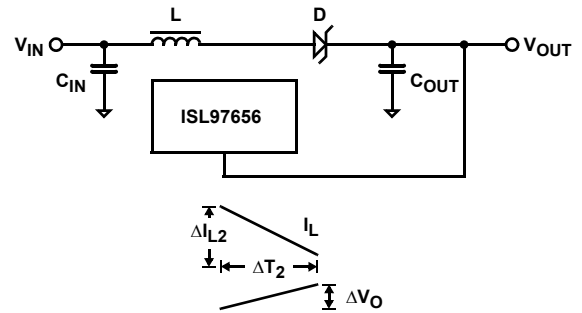

FIGURE 15. BOOST CONVERTER - CYCLE 2, POWER SWITCH OPEN
During the second cycle, the power FET turns off and the Schottky diode is forward biased, (see Figure 15). The energy stored in the inductor is supplied to the output. This energy is used to charge the output capacitor and supply output current. In this cycle switching node (LX) is held to V_{OUT} + Schottky diode drop. Voltage drop across the inductor is $V_{IN} - V_{OUT}$ (ignoring diode drop across Schottky diode). The change in inductor current during the second cycle is shown in Equation 2: